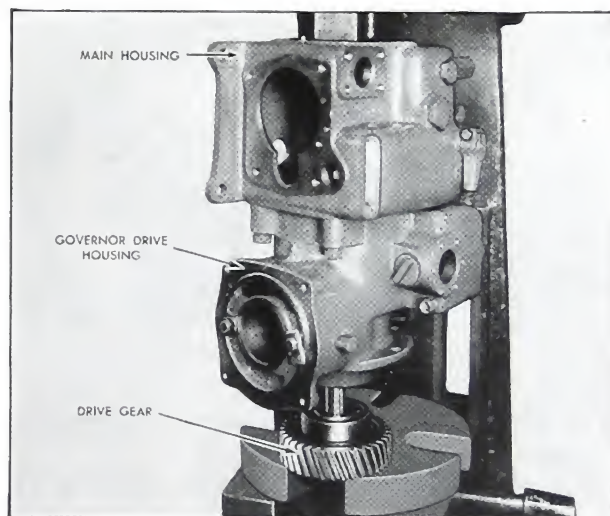

Fig. 5-156. Pressing on fuel pump drive gear
press the gear (or spider) on the shaft in an arbor press as shown in Fig. 5-156. Support ball bearing end on shaft on plate of the press.
14. With the drive gear down, place the assembly in an arbor press. Put a flat plate over end of shaft and ball bearing. Press against the plate to press the drive gear on the shaft to the stop. Fig. 5-156.